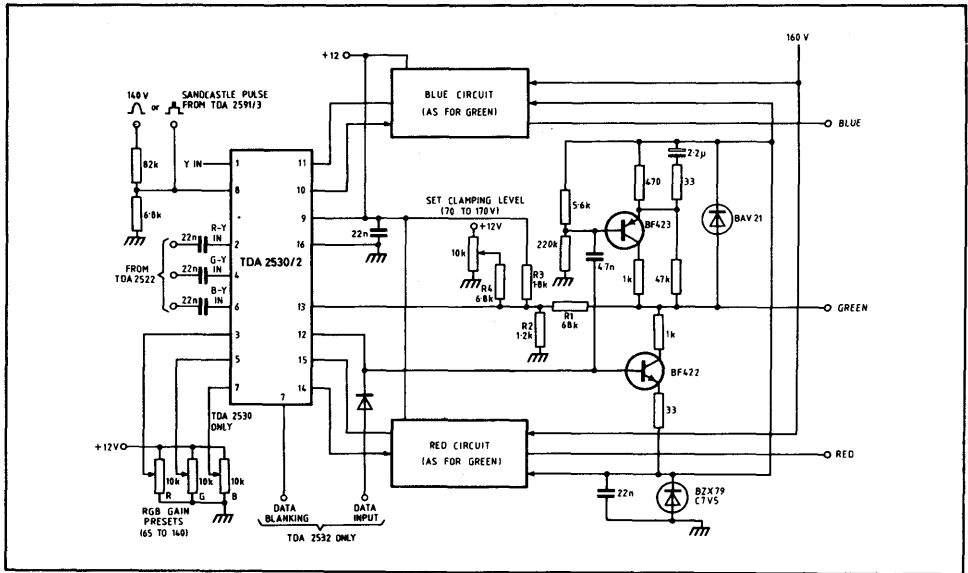

Fig. 3 TDA2530/2 applications and test circuit
Test circuit Fig. 3
3. The integrated load resistors include series diodes; this means that the resistors can be ignored when V₁₀, V₁₂, V₁₄ > V_s. Under this condition, external load resistors must be chosen such that the current is nominally 4.4mA. See Fig. 3.
(fig 3)